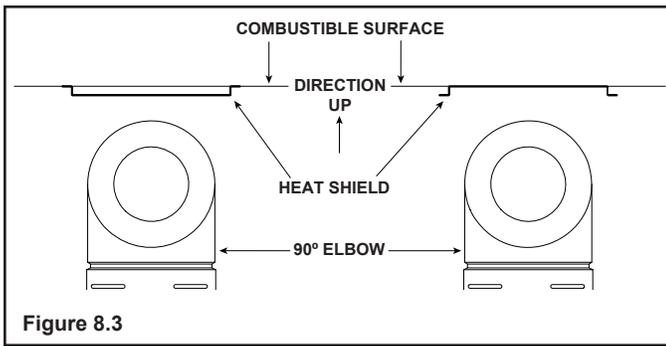

Figure 8.3
- Fasten the shield in place using the four pilot holes provided in the part. The shield should be oriented such that the 13-1/8 inch dimension (longest dimension) is running in the same direction the elbow is pointing. The shield should be centered directly above the elbow, and positioned so that it creates a 1/2 inch airspace between the shield and the combustible surface. See Figure 8.3.